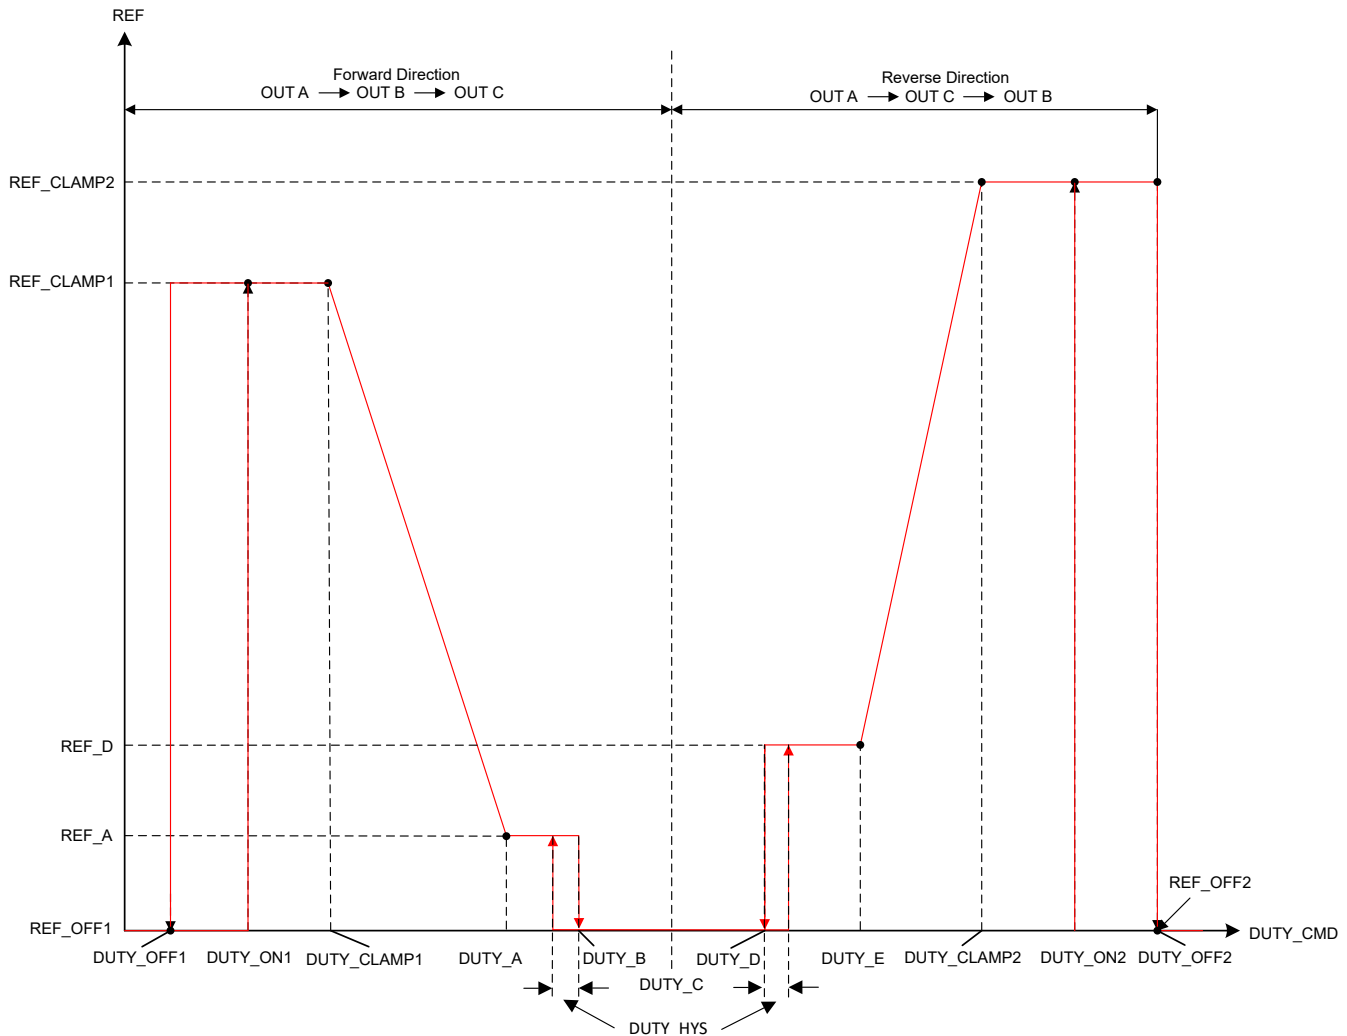

Figure 7-12. Forward Reverse Control Profiles
- DUTY_OFF1 and DUTY_ON1 configures a hysteresis around reference control input REF_CLAMP1 and REF_OFF1 as shown in Figure 7-12.
- DUTY_A configures the duty command for reference REF_A. The reference changes linearly between DUTY_CLAMP1 and DUTY_A. DUTY_A to DUTY_E has to be in the same order as shown in Figure 7-12.
- DUTY_OFF2 and DUTY_ON2 configures a hysteresis around reference control input REF_CLAMP2 and REF_OFF2 as shown in Figure 7-12.